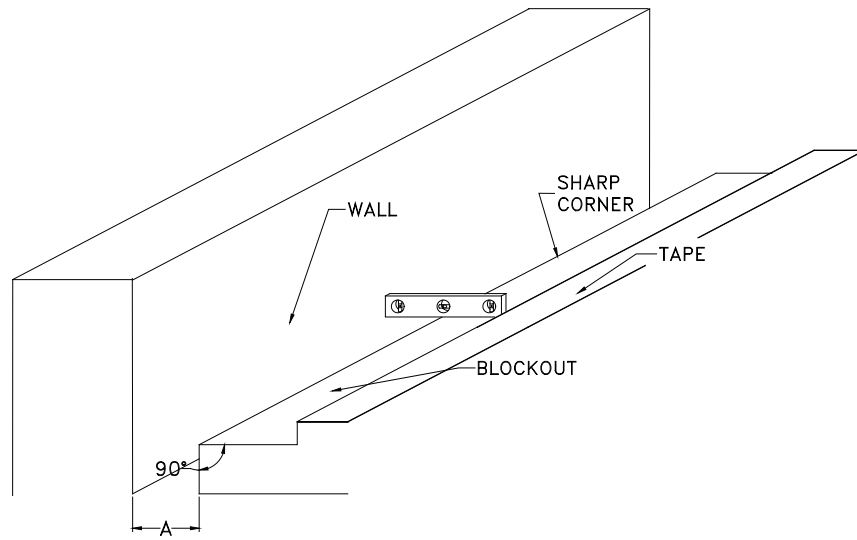

Figure 4
- STEP 2.** Apply masking tape to the deck surfaces adjacent to the blockout. Balco, Inc. also recommends that Kraft paper be used in conjunction with the masking tape to protect the concrete surfaces from tack coat and elastomeric concrete splatter, spills, tracking, etc. (see Figure 4).